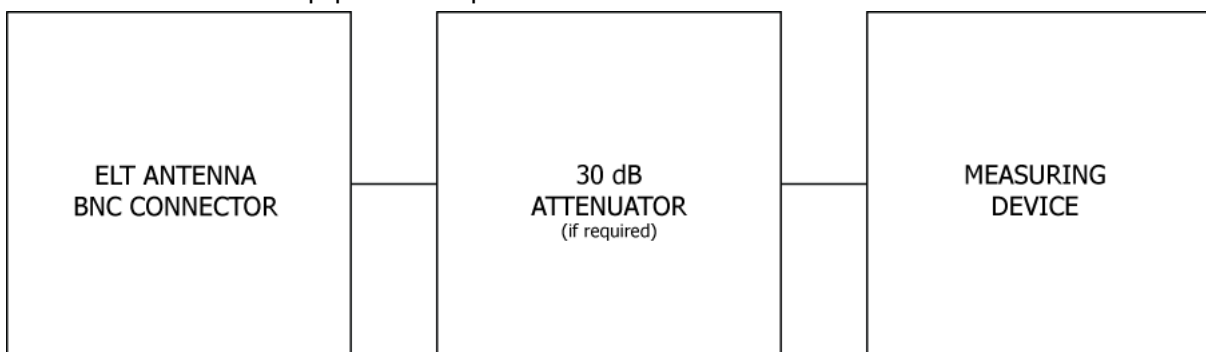

Figure 9 Performance Tests Equipment Setup
- 3) Ensure that adequate attenuation rated for 406 MHz is installed between the ELT antenna output and the measurement equipment to prevent damaging input circuitry, if required. At a minimum, the attenuator should be rated at 30 dB, and 5 watts for a 1/2-second duration as shown in Figure 9 Performance Tests Equipment Setup.